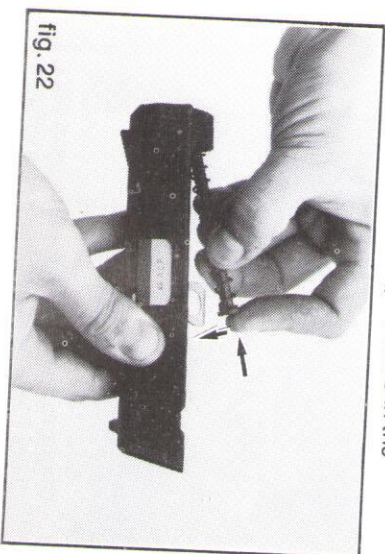

fig. 22
5. Fit the recoil spring on to its guide, making sure it will not fly off accidentally, and insert between the slide and the bottom lug of the barrel (fig. 22), verify that the spring guide sits precisely above the barrel center line.